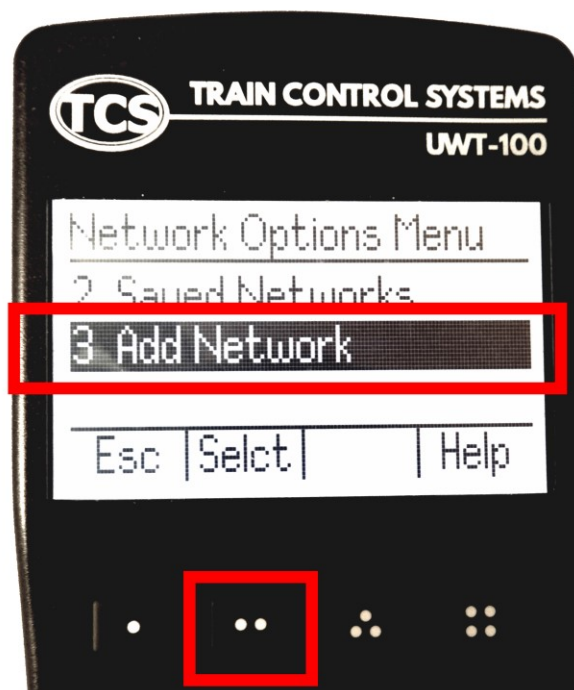

Figure 25 Select the Add Network option
(3) Select option 3, Add Network as Figure 25